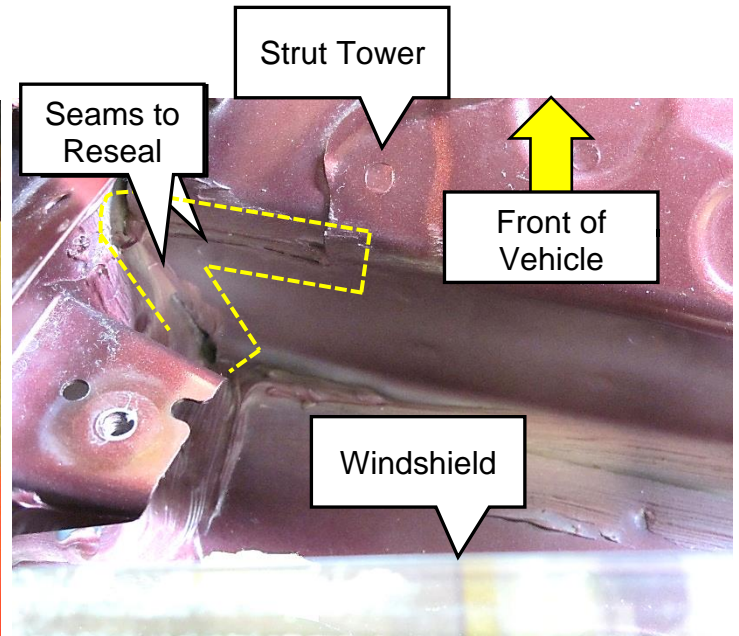

Figure 14
- Figure 14 is seen by looking down the windshield toward the engine bay under the open hood